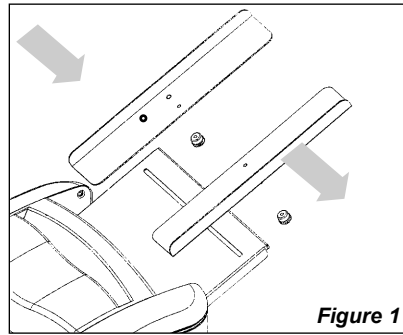
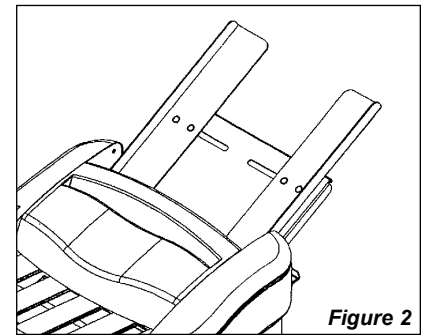

Figure 1
Figure 2
1. Insert the Paper Guides into the Paper Tray as shown in Figure 1. You will need to remove the black plastic nuts and clear spacers from the Guides. Once inserted, install the clear spacers on the Paper Guides and screw the nuts back onto the Paper Guides and tighten. The Paper Guides should now be attached to the machine as shown in Figure 2.